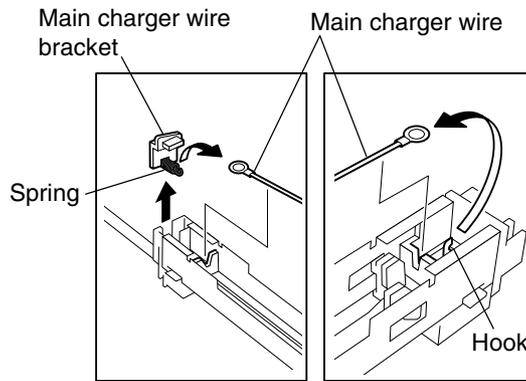

Fig. 3-4-6
- Detach the main charger wire. (See Fig. 3-4-6.)